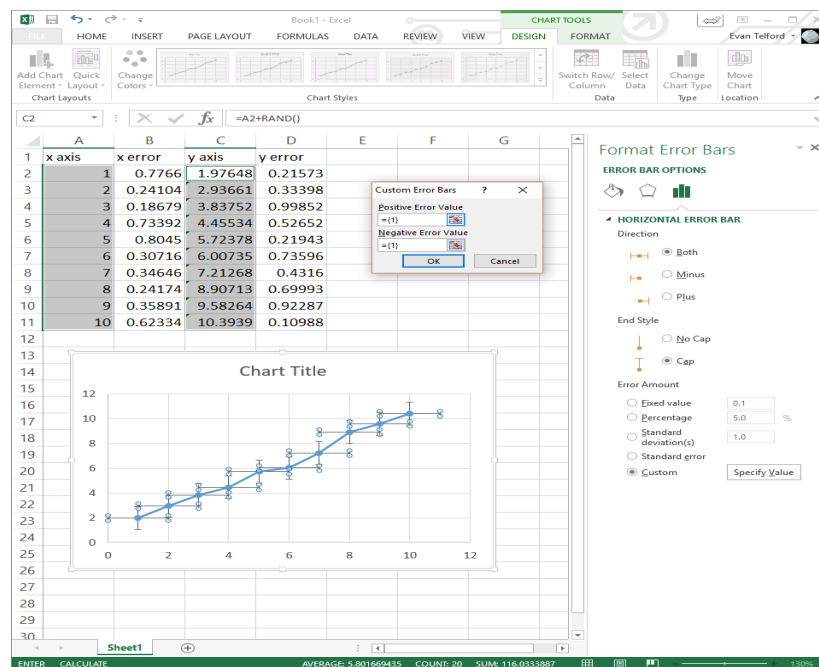

Figure 2: Using your own data set to create x and y error bars in excel.
6. It should now prompt you for positive error values and negative error values. Delete “{1}” from the two boxes, and select your error bars using the cursor. Your chart will now have the correct error bars (see figure 2).